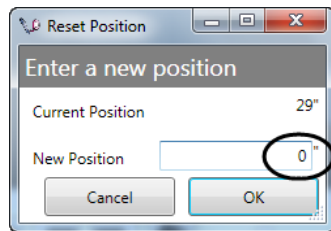

Figure 67
3. Enter “0” in the **New Position** field and click **OK** (Figure 67).